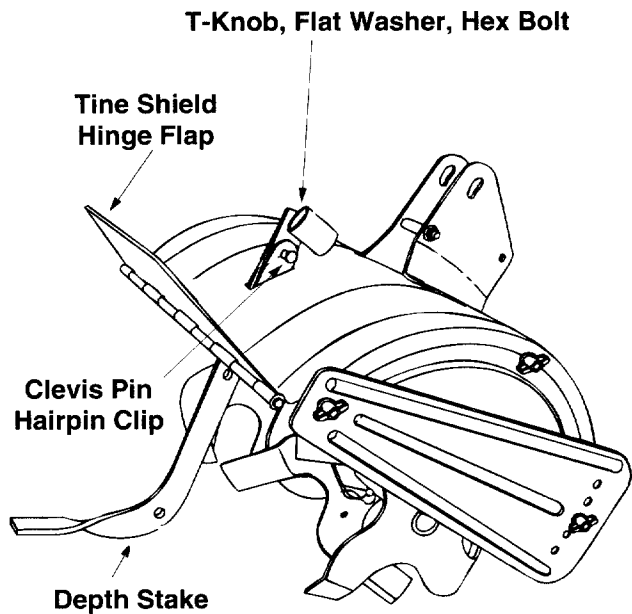

Figure 3
2. Unthread the "T" knob from the top of the depth stake, and remove the flat washer and hex bolt. Remove the hairpin clip from the clevis pin. See Figure 3.
3. Raise the tine shield hinge flap assembly. Insert the depth stake assembly in the slot (under the tine shield) and up through the tine shield assembly as shown in Figure 3.
5. Insert hex bolt into the top hole of the depth stake assembly. Place flat washer on the hex bolt and thread "T" knob onto the hex bolt. See Figure 3. Tighten securely.